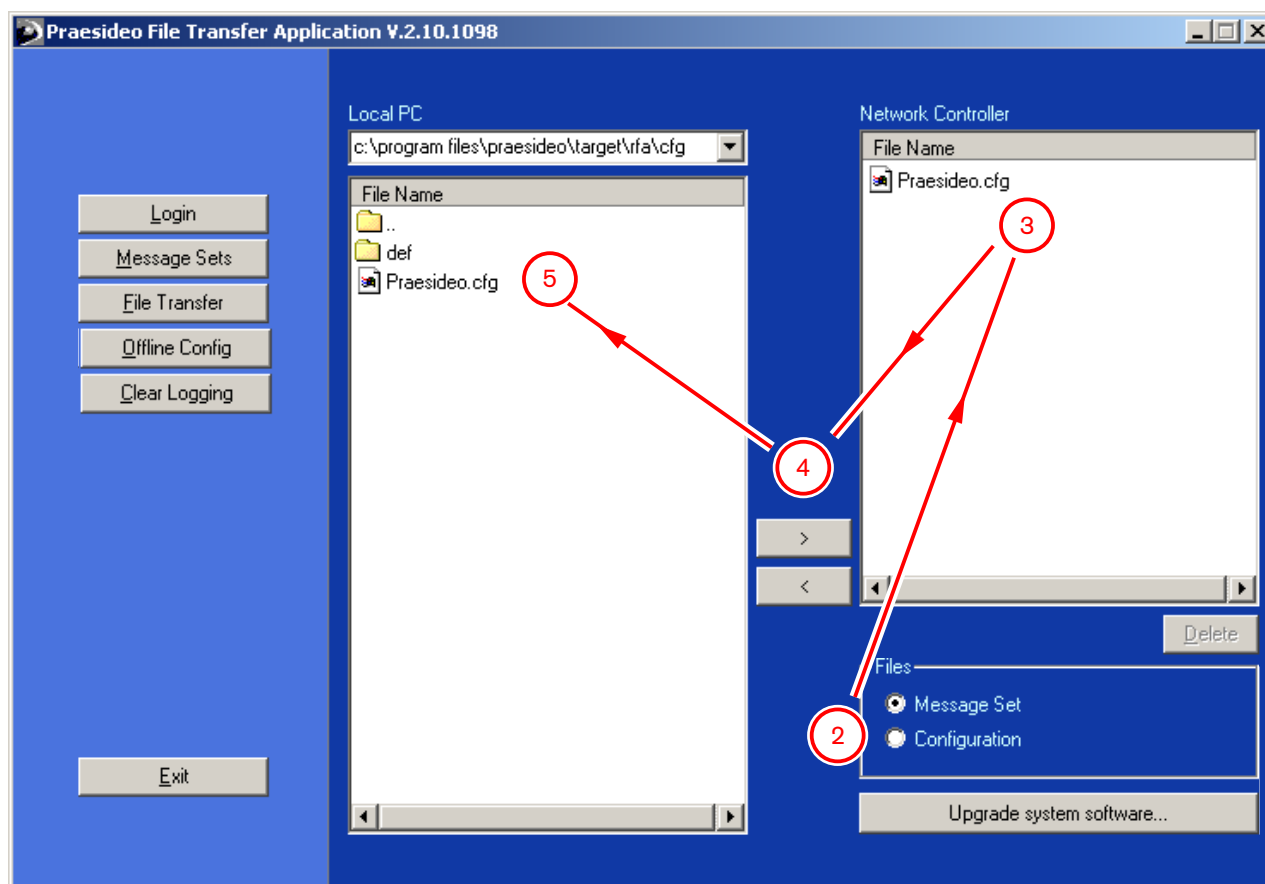

figure 48.1: File transfer screen
- 3 In the *File Transfer Application*, click the *File Transfer* button. A screen similar to the one in figure 48.1 appears. Then select *Configuration*.
- 9 Use *Windows Explorer* to copy the *Praesideo.cfg* file from the *C:\Program Files\Praesideo\target\rfacfg* folder to the *C:\Program Files\Praesideo\Programs\Convert Config Application* folder. The converted configuration file is ready to be transferred back to the network controller using the *File Transfer Application* (see figure 48.1).